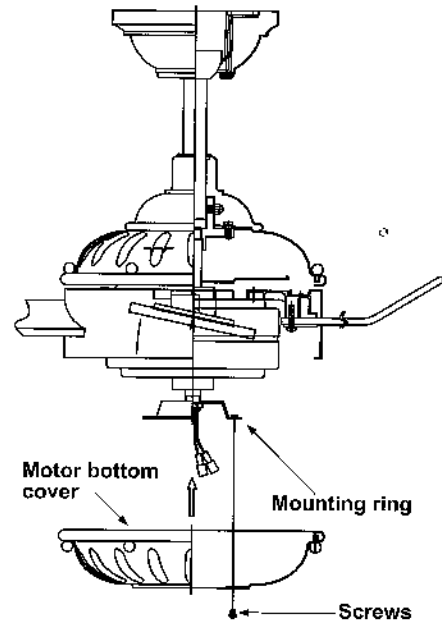

Figure 13
Step 2. Place the key holes on the motor bottom cover over the 2 screws previously loosened from the mounting ring, turn motor bottom cover until it locks in place at the narrow section of the key holes. Secure by tightening the 2 screws previously loosened and the one previously removed. (Fig. 13)